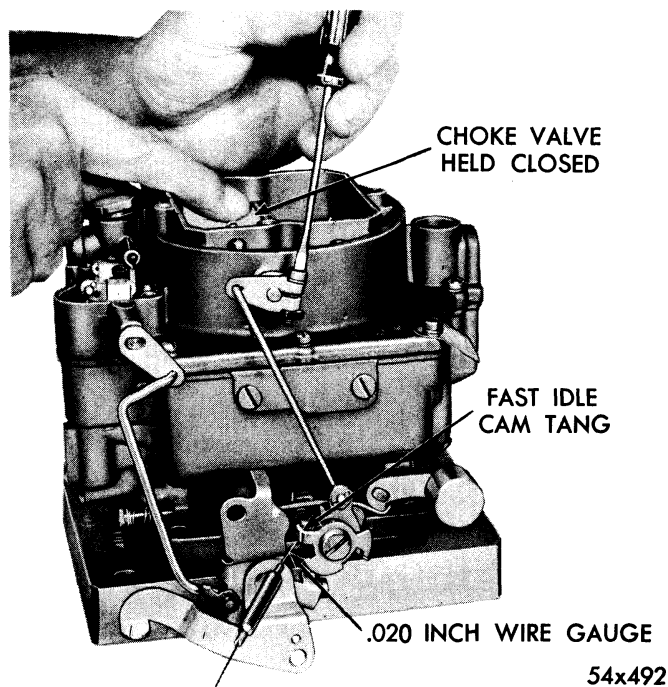

Figure 82—Choke Rod Adjustment
**Choke Rod Adjustment**—Loosen the choke lever clamp screw. Insert a .020 inch wire gauge Tool T-109-29 between the tang on the fast idle cam and the boss on the throttle body casting. Hold gauge in place by pressure applied to choke lever clamp and tighten screw. See Figure 82.